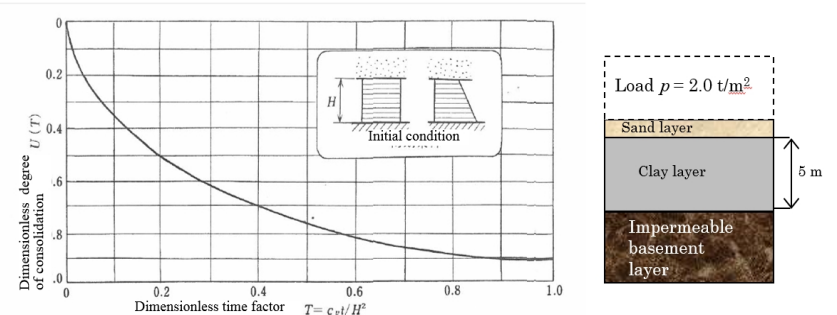

Fig. 4: Relationship between dimensionless degree of consolidation U and dimensionless time factor T
5. Fig. 4 shows relationship between dimensionless degree of consolidation U and dimensionless time factor T . The clay layer lies on the impermeable basement layer. The clay layer is five meter in thickness. The drainage has one-way to the upper surface. The coefficient of consolidation c_v is $0.2 \text{ cm}^2/\text{min}$ and coefficient of compressibility m_v is $0.05 \text{ m}^2/\text{ton}$. The load $p = 2.0 \text{ ton/m}^2$ acts on the ground surface. Find time and settlement value to finish 80% of consolidation. (24 points)